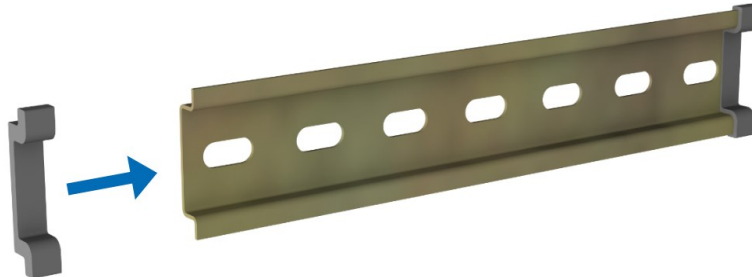

FIGURE 6-1. DIN-rail end caps
1. Slide a DIN-rail end cap onto each end of the DIN rail (FIGURE 6-1 (p. 9)).